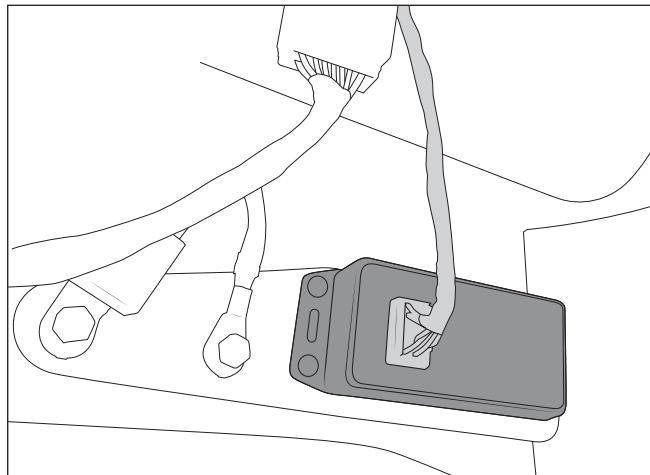

Figure 8
11. Remove the connector from the speed/fan control module (Fig. 8).